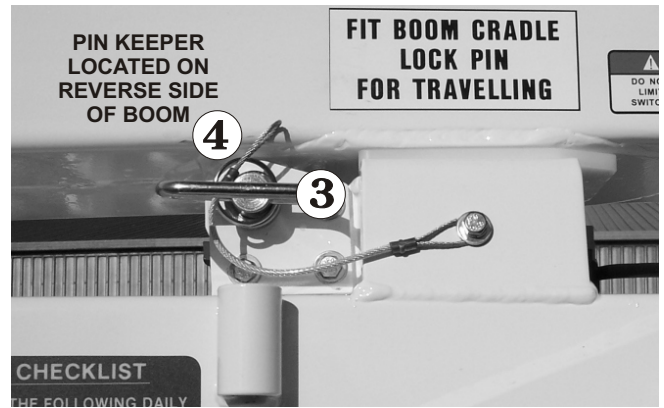

Figure 12.3 - Upper Boom restraining Lock
4. Insert the upper boom restraining lock pin **3** and ensure the pin keeper **4** is correctly locked in place (see Figure 12.3).